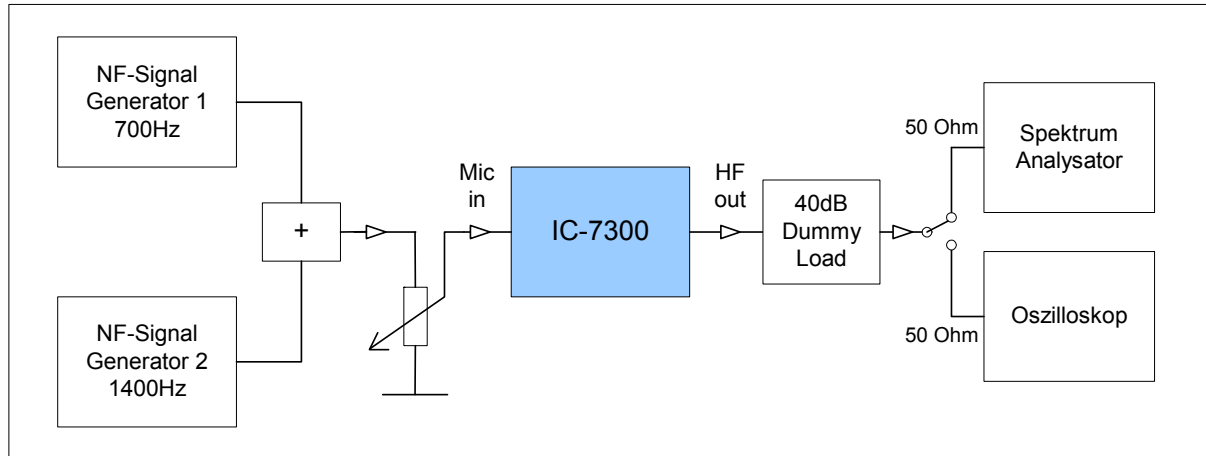
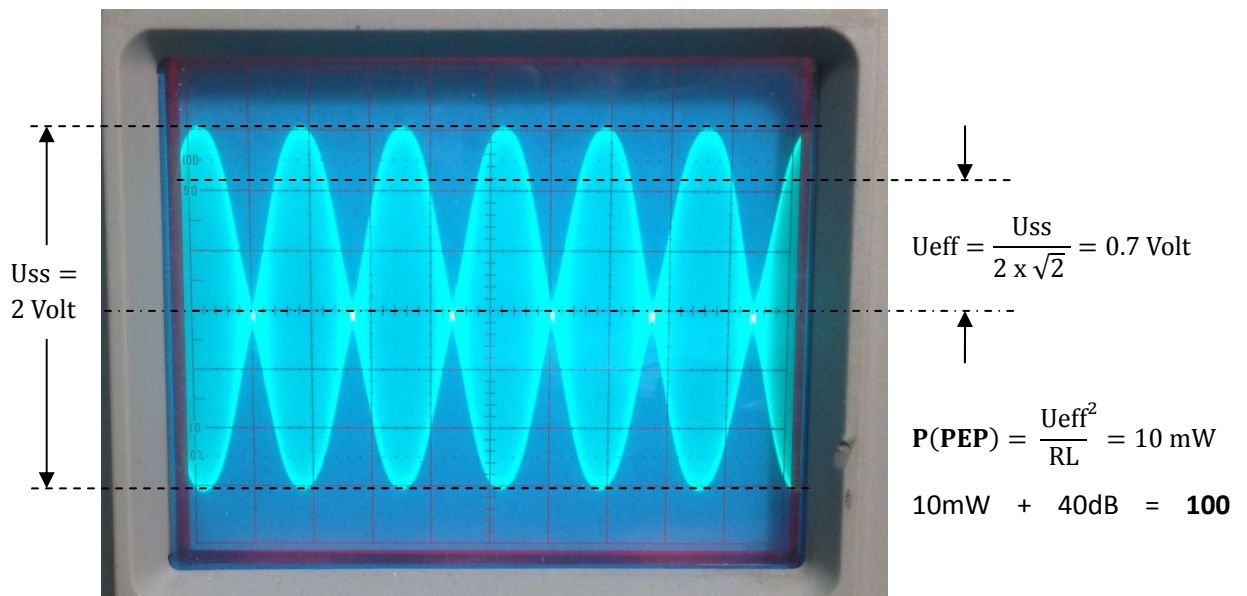

Figure 13: Measurement setup for transmitter intermodulation
Figure 14: HF 2-tone signal with 100 Watt PEP on the scope in the time domain, at 14.1 MHz
To measure the intermodulation of the MOSFET power amplifier, we connect the microphone input to an AF 2-tone generator ($f_1 = 700\text{Hz}$, $f_2 = 1500\text{Hz}$) and adjust the microphone input voltage so that the transmitter reaches a PEP output power of 100W (Fig 13) (5). Since the transmitter is now driven by two closely spaced sinusoidal signals of equal amplitude, inter-frequency effects occur, with the signals adding or canceling (Fig. 14). Therefore the average power of the transmitter does not reach 100W but only $2 \times 25\text{W} = 50\text{W}$ and the levels of the two RF signals are 6dB below the maximum